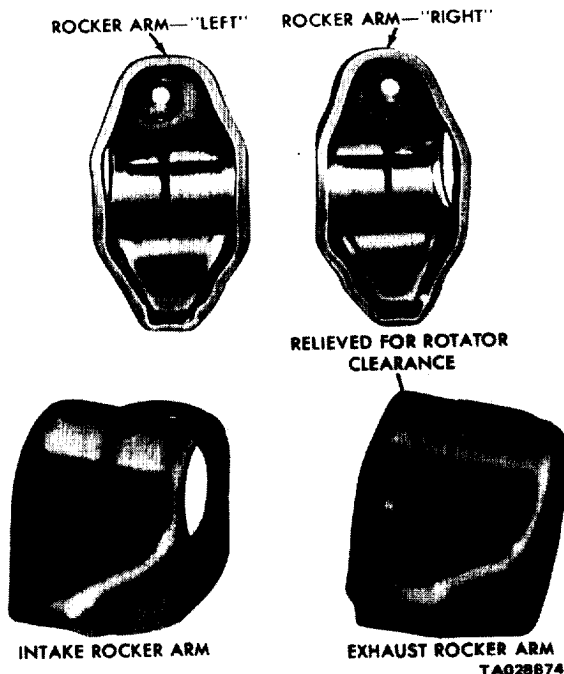
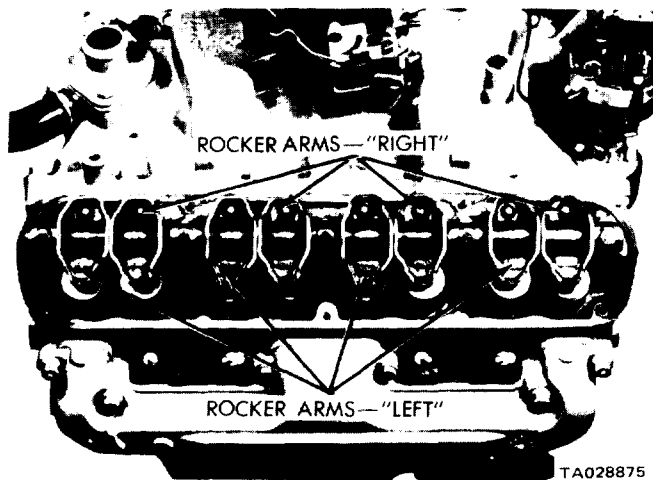

Figure 11-27. Intake and Exhaust Rocker Arm Identification.
Figure 11-28. Proper Rocker Arm Location on Shaft.
c. Reassemble the rocker arms on the shaft in groups of two. See figure 11-27 for identification of left-side and right-side rocker arms. Position the arms on the shaft as shown in figure 11-28.